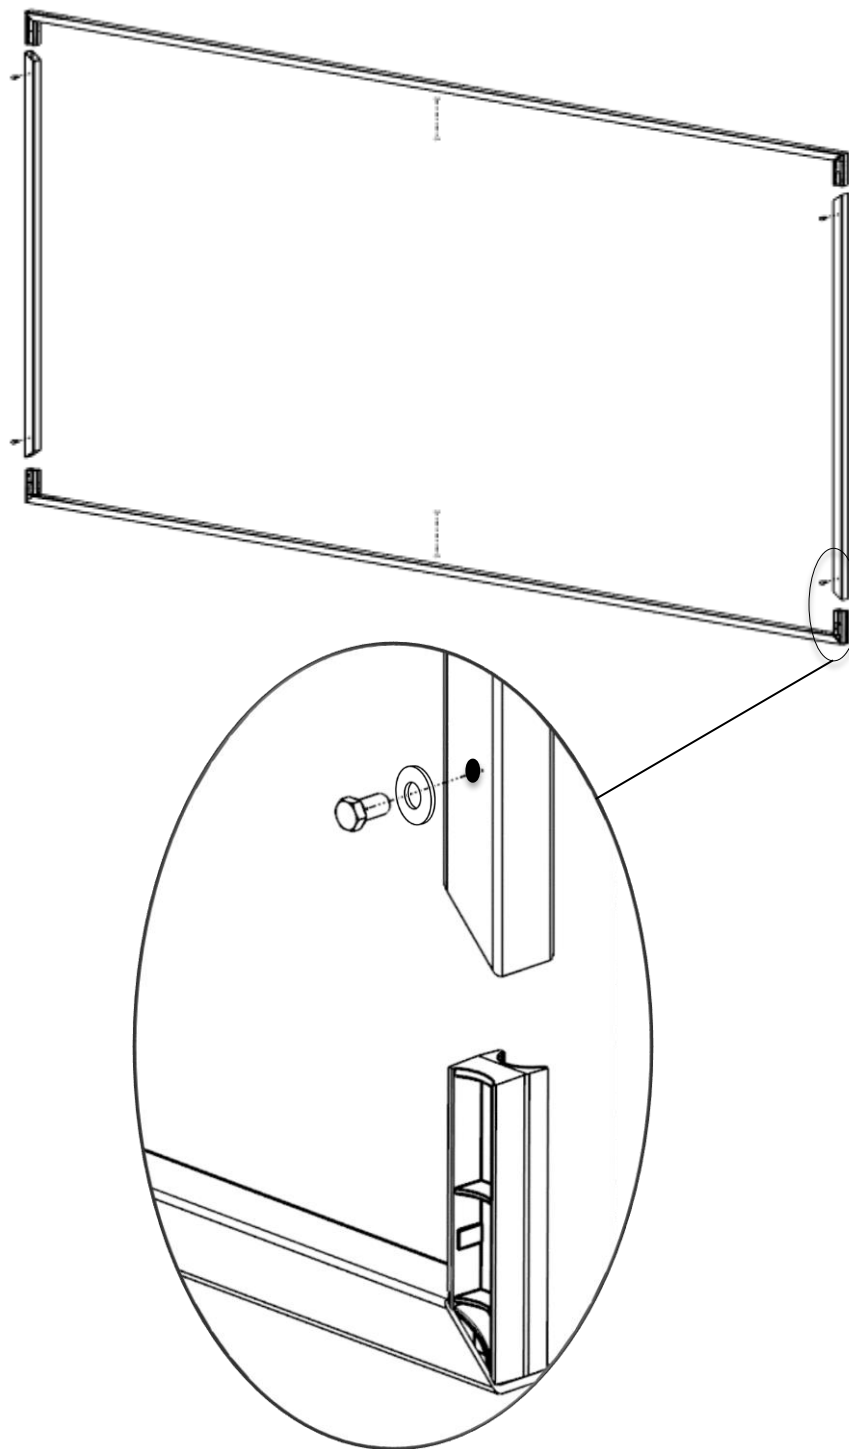

Figure 1: Frame Assembly
2. Secure the frame members with the supplied 5/16-18 x 1/2" hex bolts and 5/16-18 washer (see Figure 1).